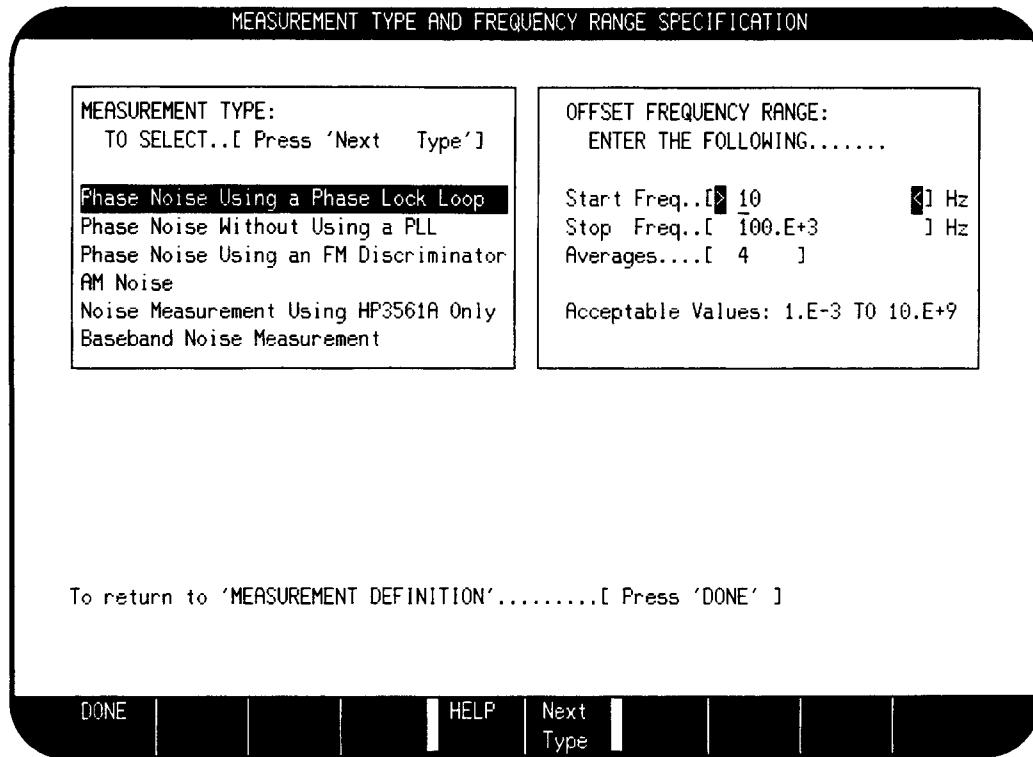

Figure 3-7. Measurement Type and Frequency Range Specification Menu
- On the HP 3048A press the **Type / Range** softkey to obtain the Measurement Type and Frequency Range Specification menu. Set the measurement type and offset frequency range as shown in figure 3-7. When done, press the **DONE** softkey.